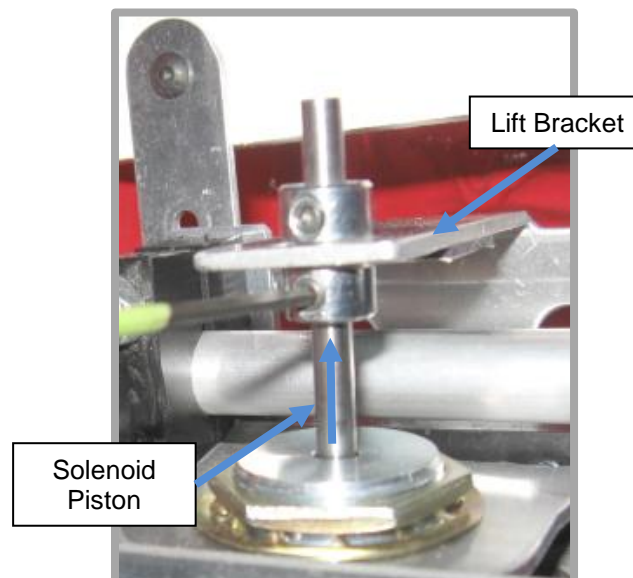

Fig. 17
3. Push the Solenoid Piston up with your finger and move the locking collar to bottom side of the Lift Bracket, and then tighten set screw on collar as shown in Fig. 17.